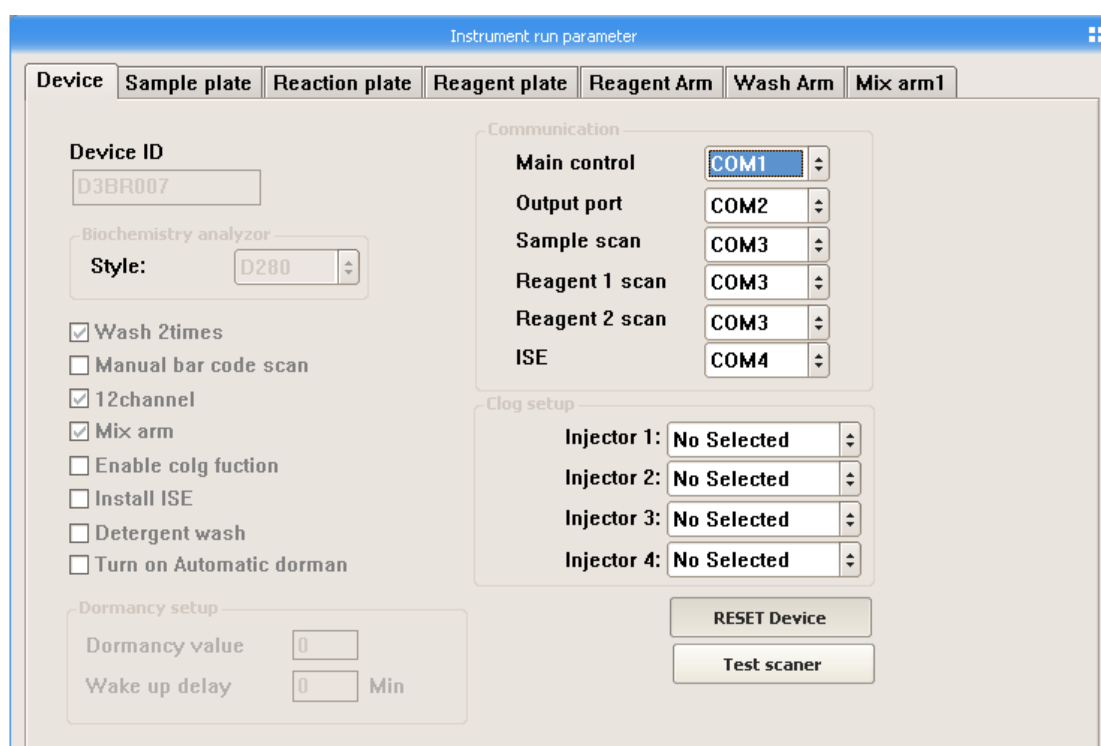

Figure F1-1
2. Use "Admin" to login and open s "Device \ device parameter \ device..." password is "999", the interface appear as shown in Figure F1-1: